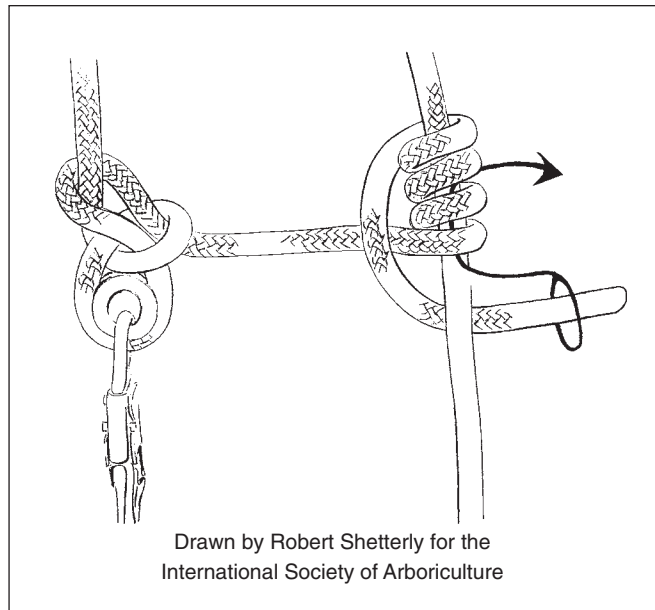

Figure 3f—Blake's hitch.
2. **Blake's hitch.** The Blake's hitch (figures 3f and 3g) is another friction knot and is a slight modification of the Prusik knot. It is growing in popularity because of its improved performance and because it has fewer limitations than the Prusik knot. This knot maintains more uniform friction, which provides for a smooth-running friction hitch, does not bind readily, and does not have a tendency to "roll out." The tail does not slip or creep, but is subjected to greater friction damage as it slides along the standing part of the rope. This could be a significant concern during fast rappels (which should